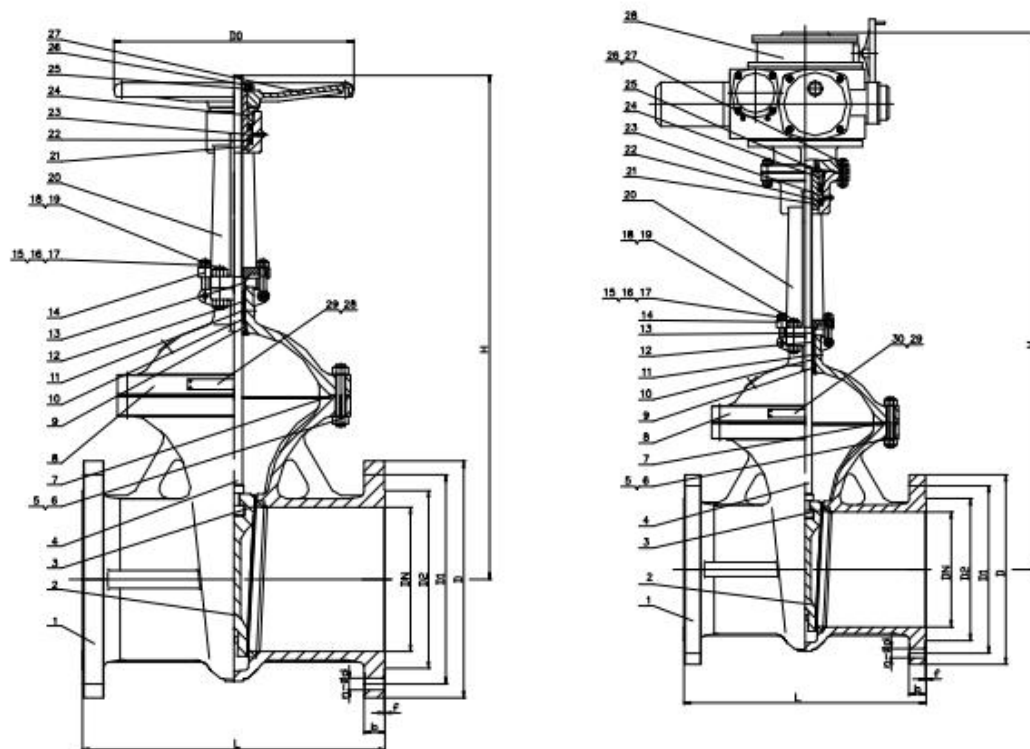

Figure 1 Manual / Electric Flanged Gate Valve
3.1 The basic structure of the gate valve is shown in Figure 1.